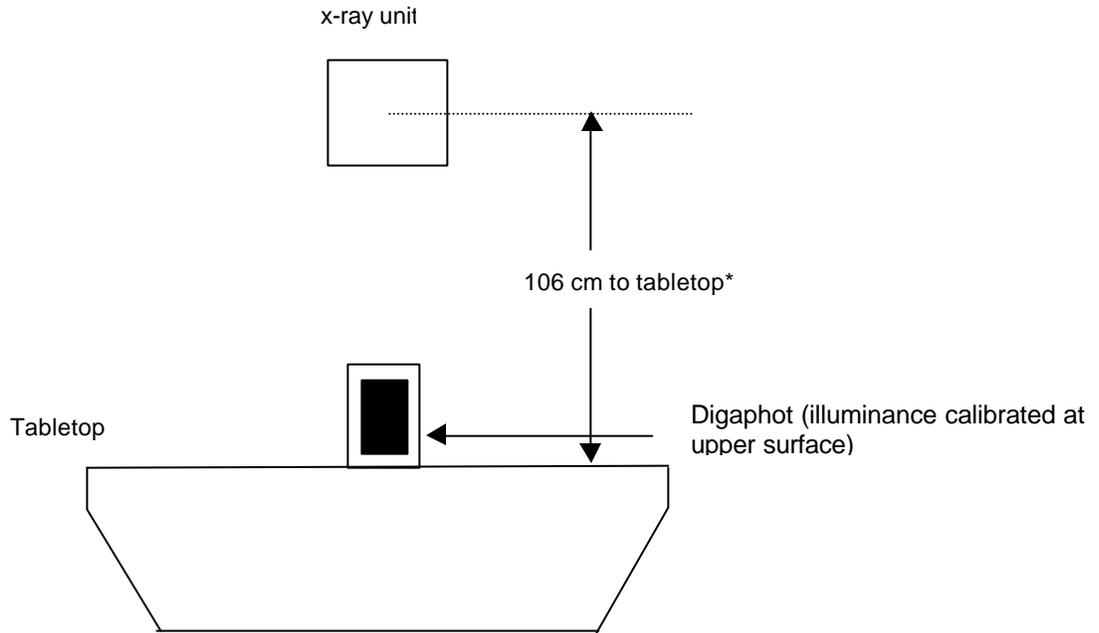

Figure 2 Digaphot positioned for measurements in the upright position
- (1) Position the X-ray machine light localizer such that the light is 106 cm (or at the maximum source-image distance, whichever is less) above the tabletop with the light field directed downward onto the tabletop or image receptor. The extra 6 cm takes into account the height of the photometer. Adjust the light localizer controls to produce an approximate 10 " x 10" light field at the tabletop.
- (2) Reduce the room lighting to the minimum level. The actual light localizer output value will be the difference between the reading with the light localizer on the reading with the light localizer off (Actual = Readingon - Readingoff).
- (3) Position the Digaphot in the upright position (Fig.2) on the tabletop and record the illuminance at the approximate center in each of the four quadrants. Be sure that the light meter is perpendicular to the light source. Average these four readings to obtain the uncorrected average illuminance.